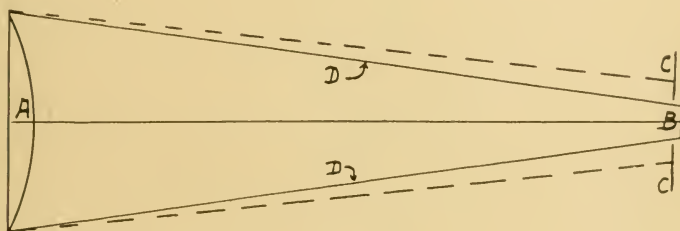

FIGURE 68
(97) Projectionists may lay out the effective beam as per Fig. 68 in which line AB is on the optical axis and just long enough to reach from aperture B to plane of converger at A, broken lines representing the outline of the converger light beam as a whole. CC is the cooling plate.